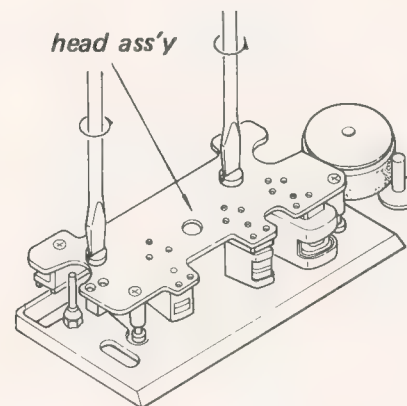

Fig. 3-4-1. Head ass'y removal
- (1) Remove the Head Cover.
- (2) Remove two screws which secure the Head Assembly as shown in Fig. 3-4-1.
- (3) Lift the 4-track (2-track) Head Assembly out of the Head Deck.
- (4) Install the 2-track (4-track) Head Assembly.
- (5) Secure the Head Assembly with the two screws.
- (6) Install the Head Cover.